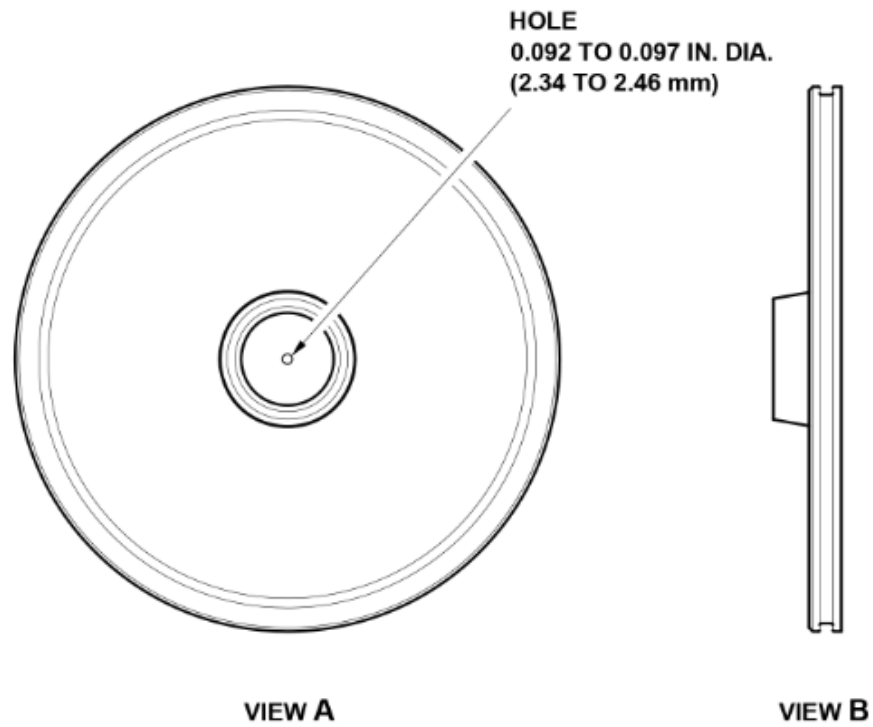

Figure 1 – Grease Retainer
5. Secure the retainers flat and drill a 0.092 – 0.097-inch diameter hole directly in the center of each retainer as shown in Figure 1.